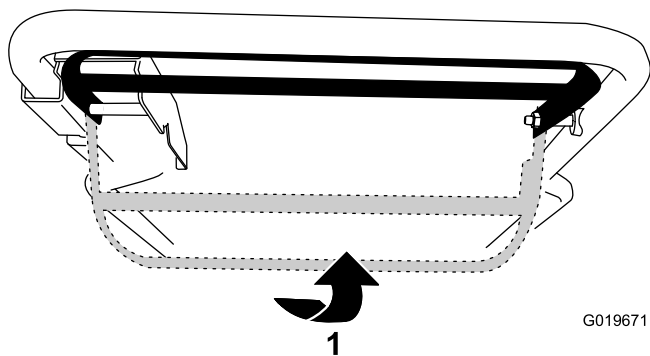

Figure 18
- To operate the self-propel drive without engaging the blade, raise the control bar to the handle (Figure 18).